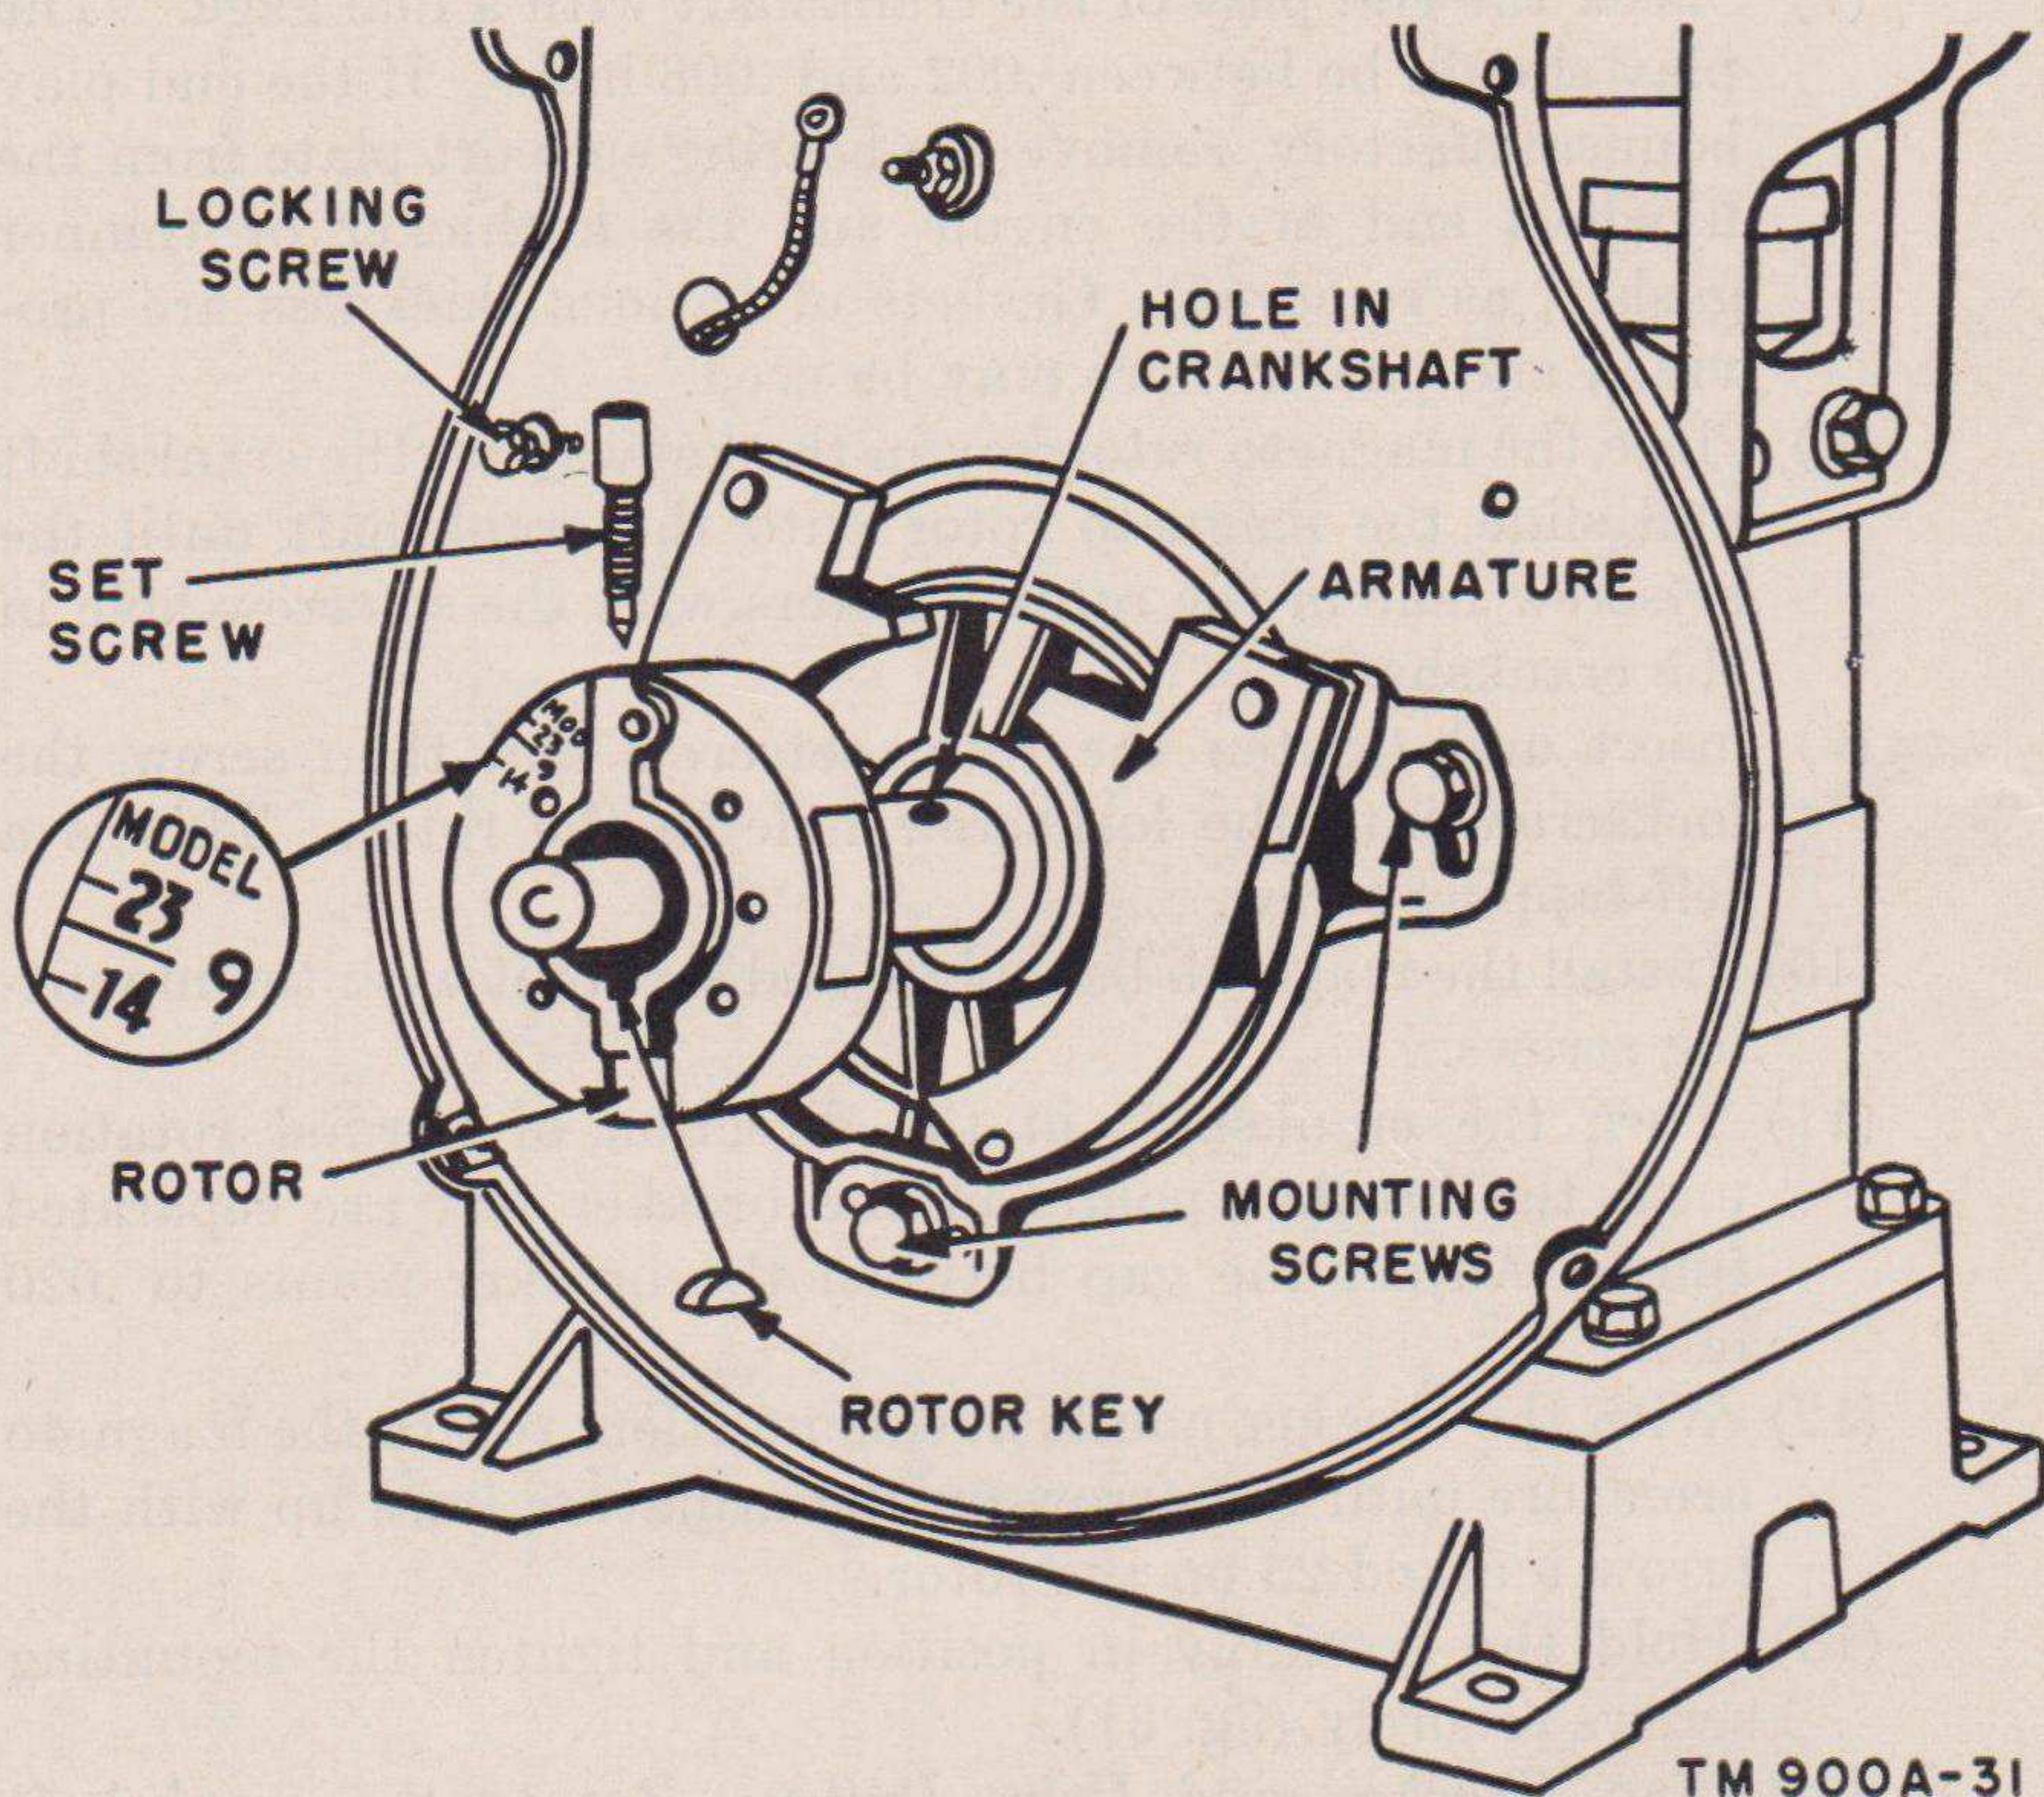

Figure 31. Alinement of magneto rotor and armature.
- (6) Wrap a piece of .002-inch shim stock around the two shoulders on the crankshaft to protect the oil seal while installing the cover plate. Slide the cover plate and oil seal over the end of the crankshaft and secure the cover plate with the cap screws provided. Remove the shim stock after the cover plate has been installed.
- (7) Check the end play of the crankshaft with a dial gage. The play should be between .002 and .008 inch. If the end play is unsatisfactory, remove the bearing support plate from the flywheel end of the engine and use a thicker or thinner gasket, as required. Gaskets of various thickness are provided and one or more may be used.
- (8) Place the magneto rotor key in the keyway on the crankshaft and slide the magneto rotor onto the crankshaft until the setscrew hole in the rotor registers with the setscrew hole in the crankshaft.
- (9) Insert and tighten the rotor setscrew and then screw the lock screw into the lock screw hole in the rotor. This is a self-tapping screw.
- (10) Install the magneto backplate and secure it with the mounting screws.
- (11) Turn the crankshaft in the direction of normal rotation until the breaker points in the breaker box are separated fully. Adjust the gap between the breaker points to .020 inch.
- (12) With the breaker points in this position, rotate the magneto armature until the arrow on the armature lines up with the arrow marked 23 on the rotor.
- (13) Hold the assembly in position and tighten the mounting screws securely (fig. 31).